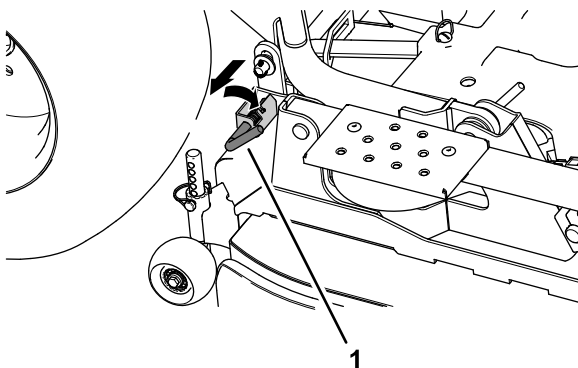

Figure 113
3. Before lowering the deck, pull and rotate the rear link pins at both sides of the mower deck (Figure 113).
- 13. Rotate the rear link pins to engage the mower deck rear lift links; refer to Figure 113 in Removing the Mower Deck (page 75).